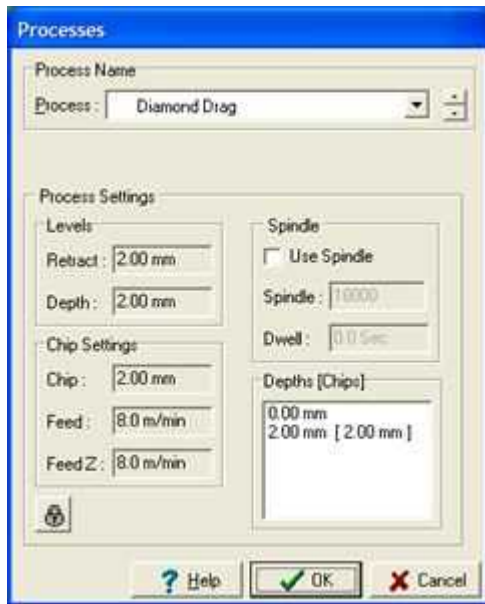

Figure 2
- 8 You will now see the Processes Dialogue Box, change your process by clicking on the arrow and selecting "Diamond Drag" by Left Clicking, see Figure 2.